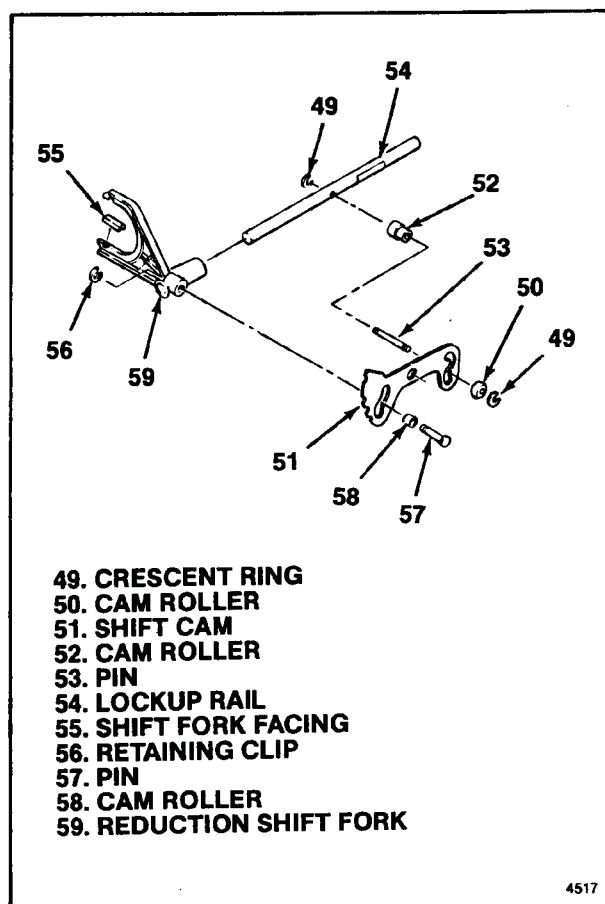

Figure 5-7. Reduction Shift Fork, Rail and Cam Parts
5-8. ASSEMBLY OF REDUCTION SHIFT FORK, RAIL AND CAM. On work bench, assemble parts as follows (see figure 5-7):
a. Insert pin (57) through cam roller (58) and into reduction shift fork (59). Attach with retaining clip (56). Make sure that cam roller turns freely.
b. Install two fork facings (55) on reduction shift fork (59).
c. Install one crescent ring (49) in groove at one end of pin (53). Insert pin through hole in lockup rail (54). Install stepped cam roller (52) over free end of pin (53) and position assembly on work bench with roller pointing up.
d. Hold shift cam (51) over the roller-pin-rail assembly (52 through 54) in the position shown in figure 5-7. Make sure that the side of the cam with the raised hub reinforcement is up. Lower cam into position with the longer cam track going over roller (52). Install roller (50) and remaining crescent ring (49).